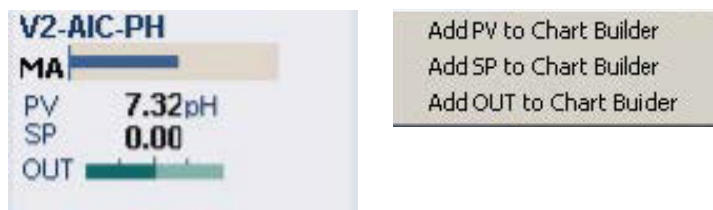

Figure H.1. Dynamo example and parameters that can be added to Chart Builder.
1. On the Main screen, right click any dynamo, such as the example in Figure H.1. The context menu opens, displaying several parameters you can add to Chart Builder.